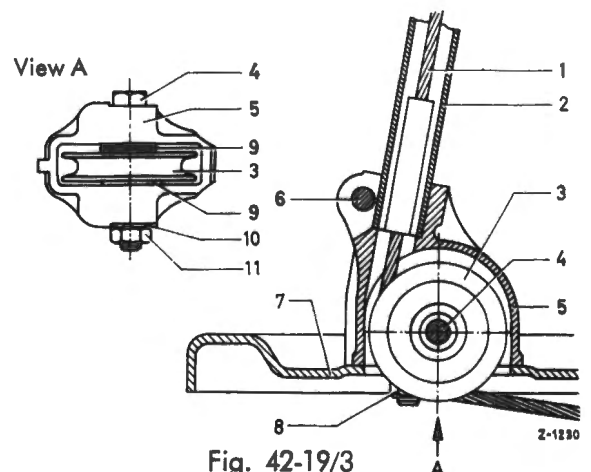

Fig. 42-19/3
9. Tighten the hexagon screw (6) on the pulley housing sufficiently for the cable guide to be firmly in position (Fig. 42-19/4).